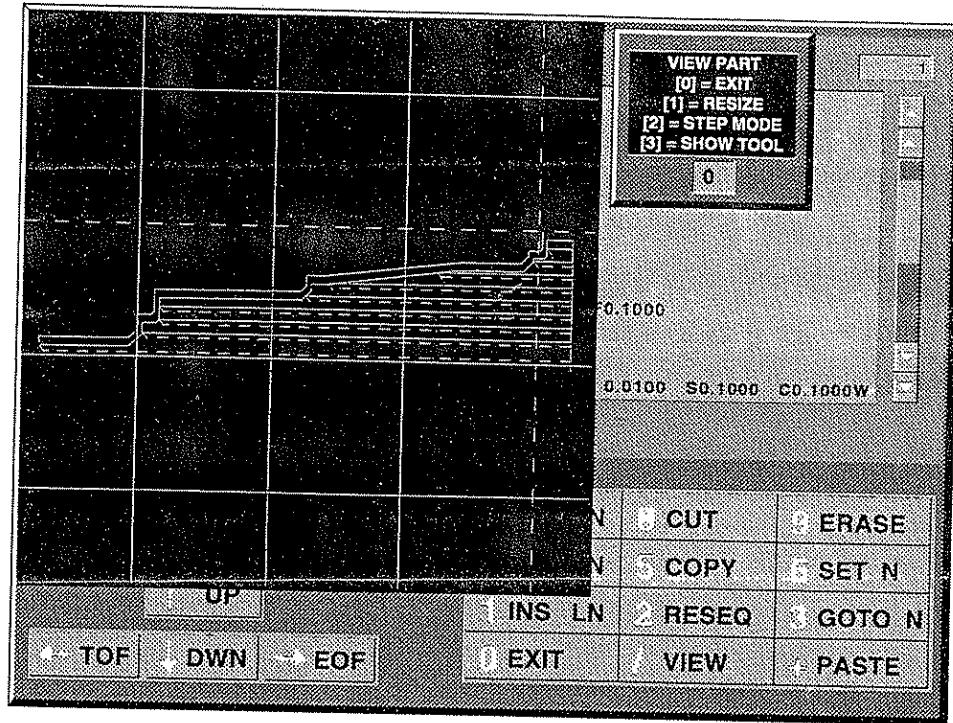

Figure 8-3
- 0 EXIT.** The **0** key in the EDIT mode exits the EDITOR and prompts the user to save the edited program. The name can be changed at this point so that a new file is created, leaving the original file unchanged. The new program name can be typed in place of the existing name in the **PRGM** field. The program name can be up to eight (8) numeric characters. The file extension **.PGM** is added automatically.
- * **VERIFY.** This command is used to check the actual movement of the tool when the program is run. It can only be used with canned cycles, such as ROUGH, PROFILE, GROOVE, THREAD, and DRILL. After the computer computes the necessary move a screen appears as shown in Figure 8-3. The dialogue box gives several options for viewing the part.